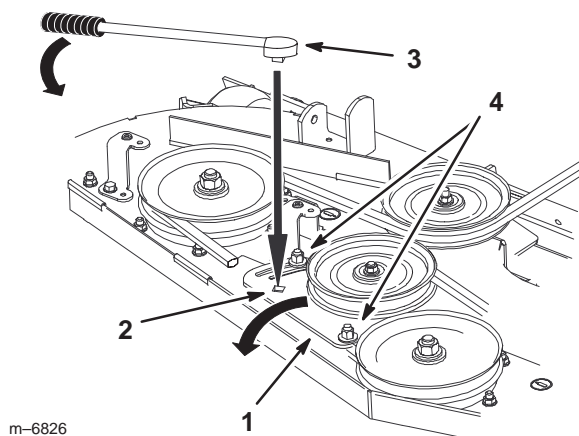

Figure 76
- Loosen the nut securing the idler plate and move the idler plate to relieve the belt tension on the idler pulley (Fig. 76).
5. If adjustment is required, loosen the mower idler plate and adjust it (Fig. 76).
6. Insert a ratchet or breaker bar into the square hole in the mower idler plate to adjust the tension (Fig. 76).
7. To increase belt tension, rotate the mower idler plate until resistance is felt and rotation stops. Do not go past when it stops (Fig. 76).
8. Tighten the idler plate bolts (Fig. 76).
10. Adjust the belt tension and the idler plate, if necessary, and tighten all hardware securely (Fig. 76).